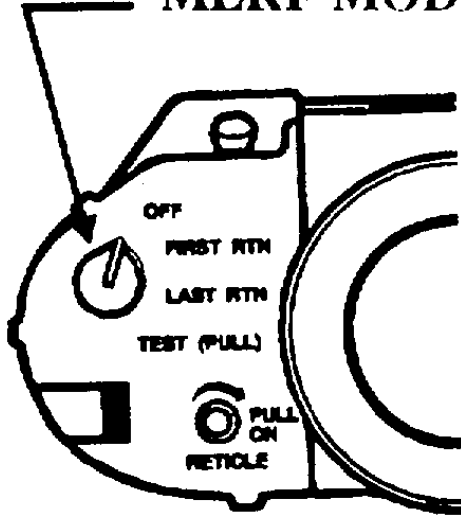

Figure 2-2. MLRF Mode Switch
- a. MLRF Mode Switch (Figure 2-2).